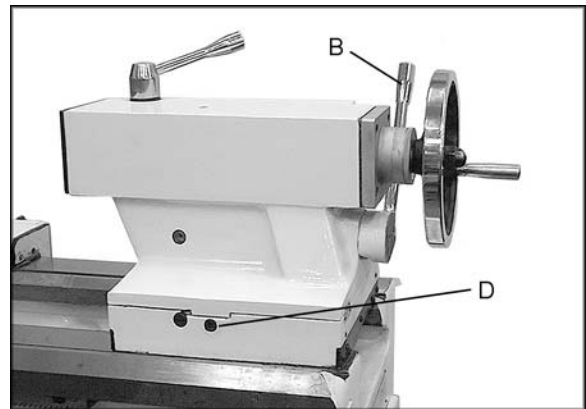

Figure 27 – Tailstock offset
1. Loosen tailstock in position by lowering locking handle (B, Figure 27) and loosening hexagon head eccentric shaft at back of tailstock.
2. Alternately loosen and tighten front and rear screws (D, Figure 27). **Note:** Front screw is shown.
If adjustment is needed, align the tailstock using the off-set screws (D, Figure 27) until the tailstock is aligned.